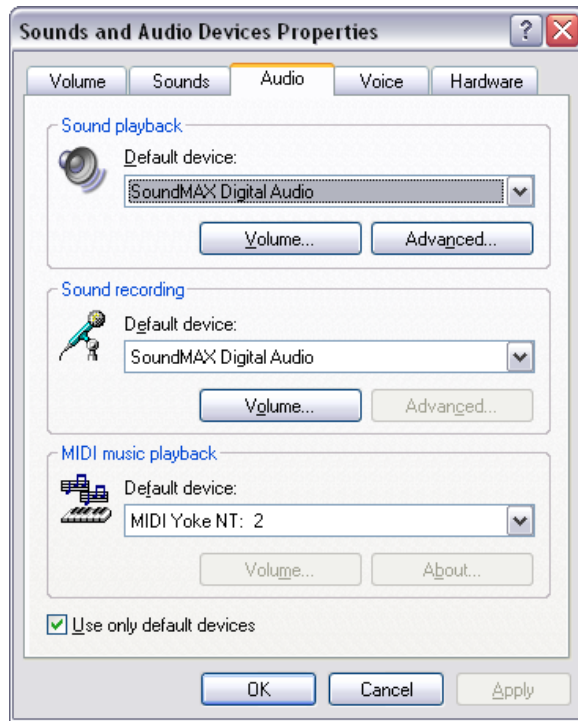

Figure 1. Selecting a MIDI Yoke Device in the Windows XP Control Panel
8. Select a MIDI Yoke device from the **(Windows XP) Default device** pull-down menu or the **(Windows 2000) Preferred device** pull-down menu in the **MIDI music playback** section as shown in Figure 1, and click the **OK** button. LabVIEW can use any MIDI Yoke device.